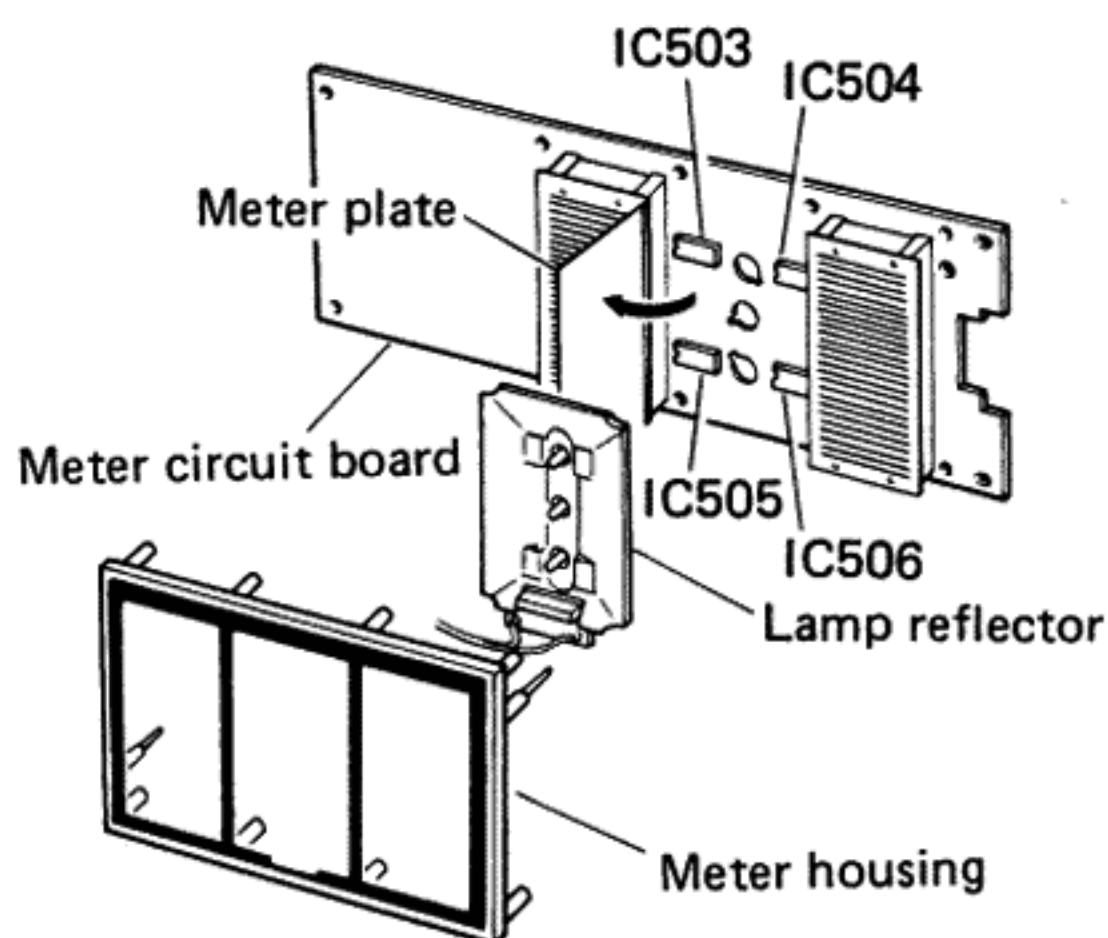

Fig. 6
- Detach one side of the adhesive tape which adheres the meter plate (It is difficult to set on just position if you detach the both left and right sides.) and open the meter plate as shown in Fig. 6.